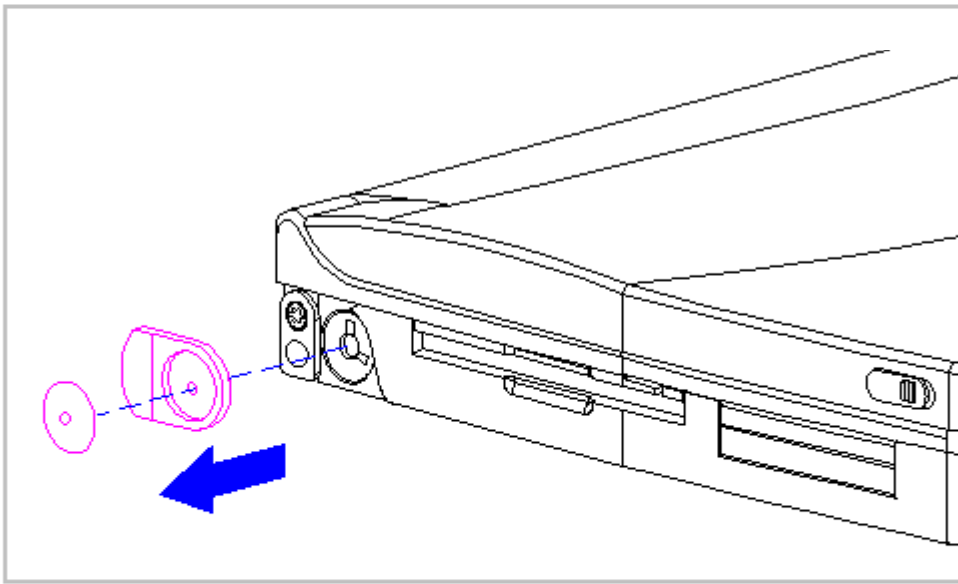

Figure 5-9. Removing the Tilt Foot
2. Remove the tilt foot screw (Figure 5-9). Screws from the tilt feet are not reusable and must be discarded.
3. Remove the tilt foot (Figure 5-9).